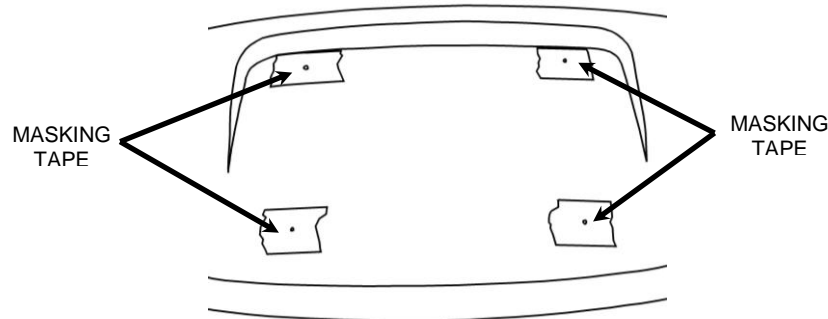

FIGURE 2
4. Apply masking tape over the holes on the top surface of the trunk lid to protect it from chipping. See **FIGURE 2**.